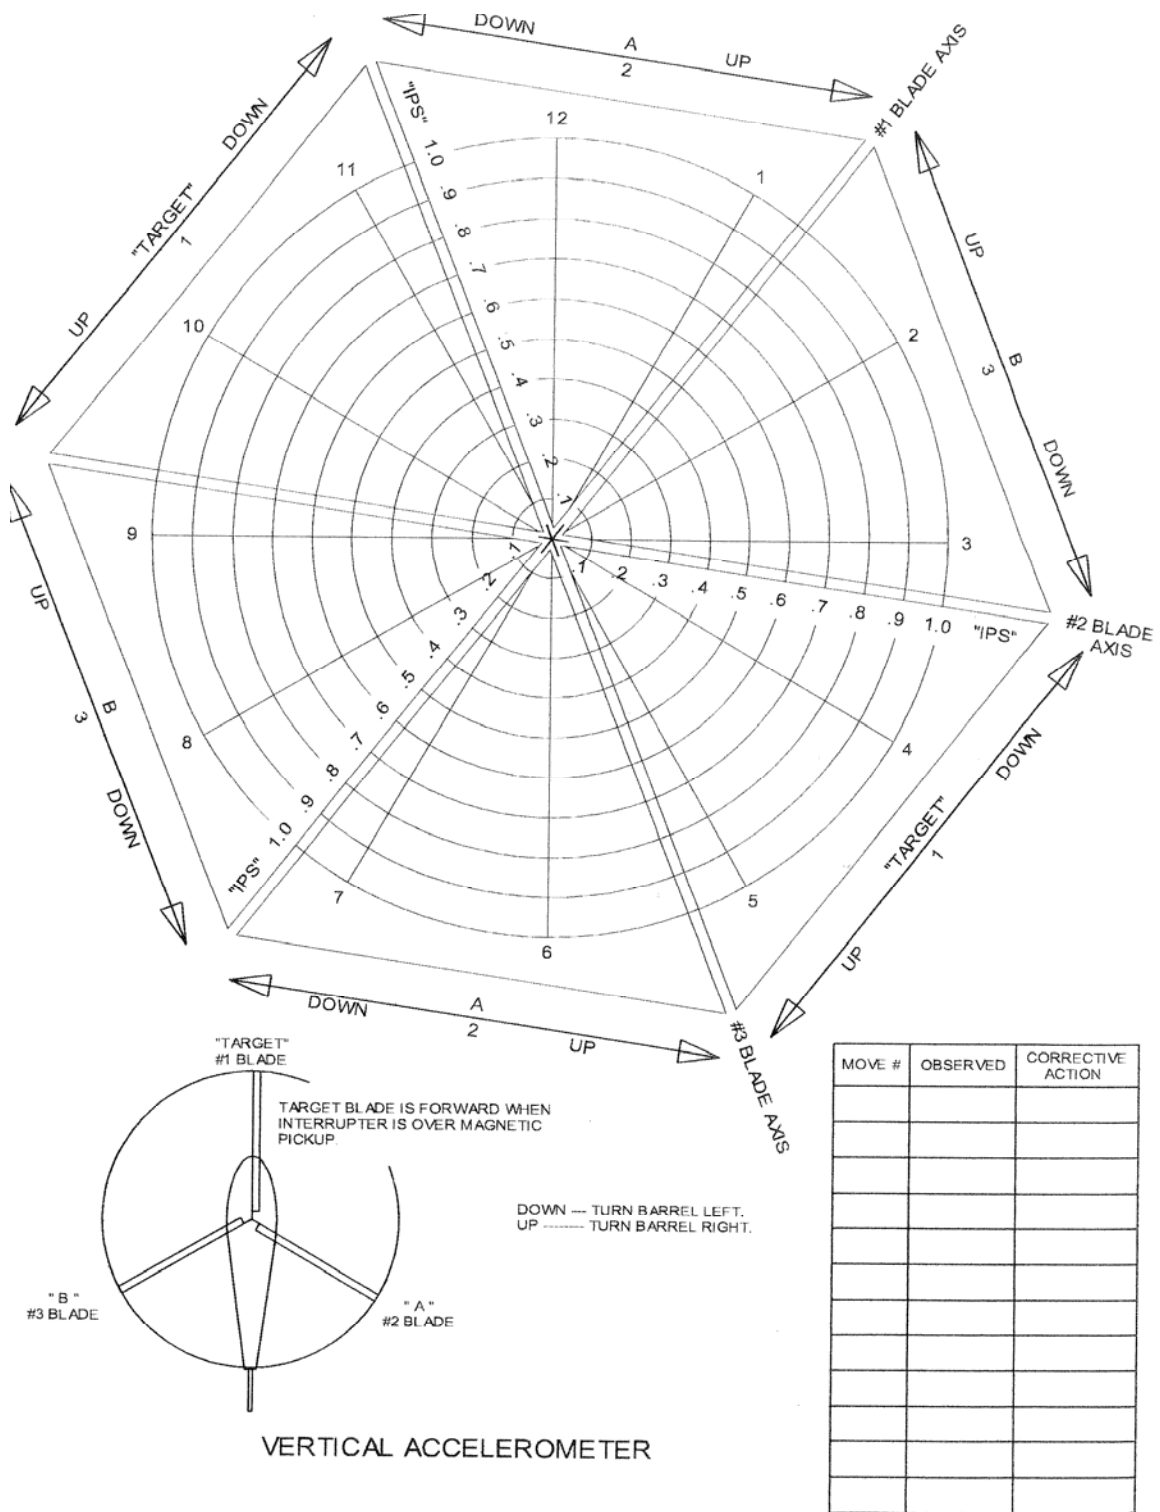

Figure 4. Vertical Accelerometer Polar Chart
7. Record the ips reading and the clock angle. Using the Vertical Accelerometer Polar Chart (Figure 4), adjust track for ips readings of less than 0.2 using pitch links.
2. Using the same polar chart (Figure 4), adjust the forward flight to less than 0.2 ips with the inboard tabs.